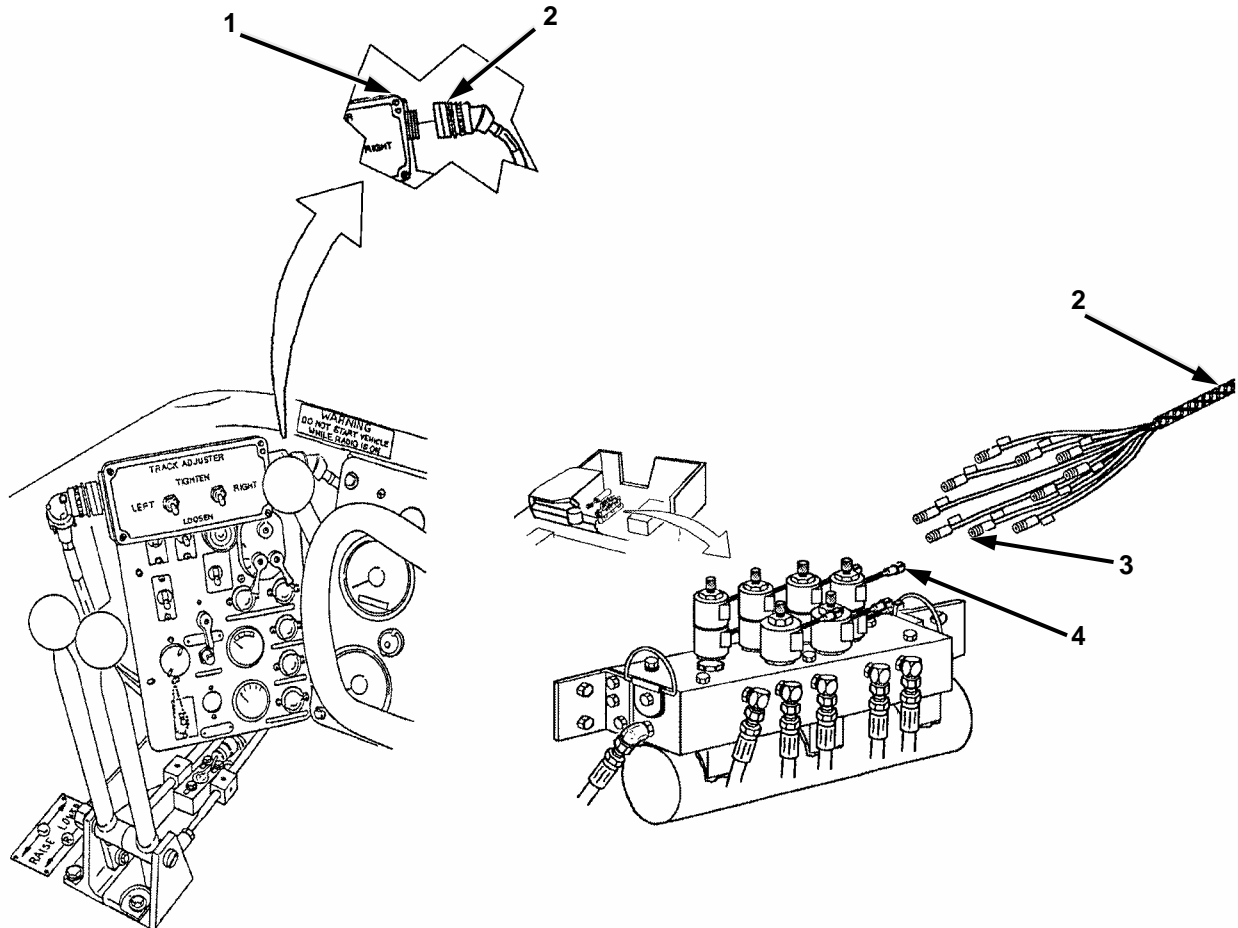

Figure 2-1. Track Adjuster Main Wiring Harness.
- b. Remove track adjuster main wiring harness connector (Figure 2-1, 2) from suspension control electrical box (1).